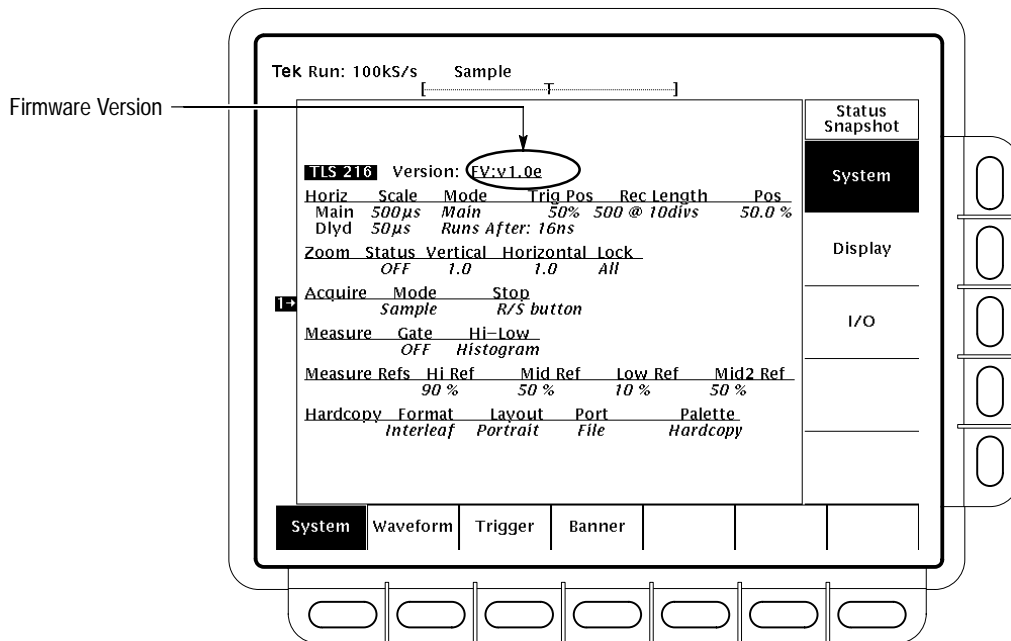

Figure 3-77: Status Menu — System
*System* displays information about the Display, I/O, Horizontal, Zoom, Acquisition, Measure, and Hardcopy systems (Figure 3-77). This display also tells you the firmware version.